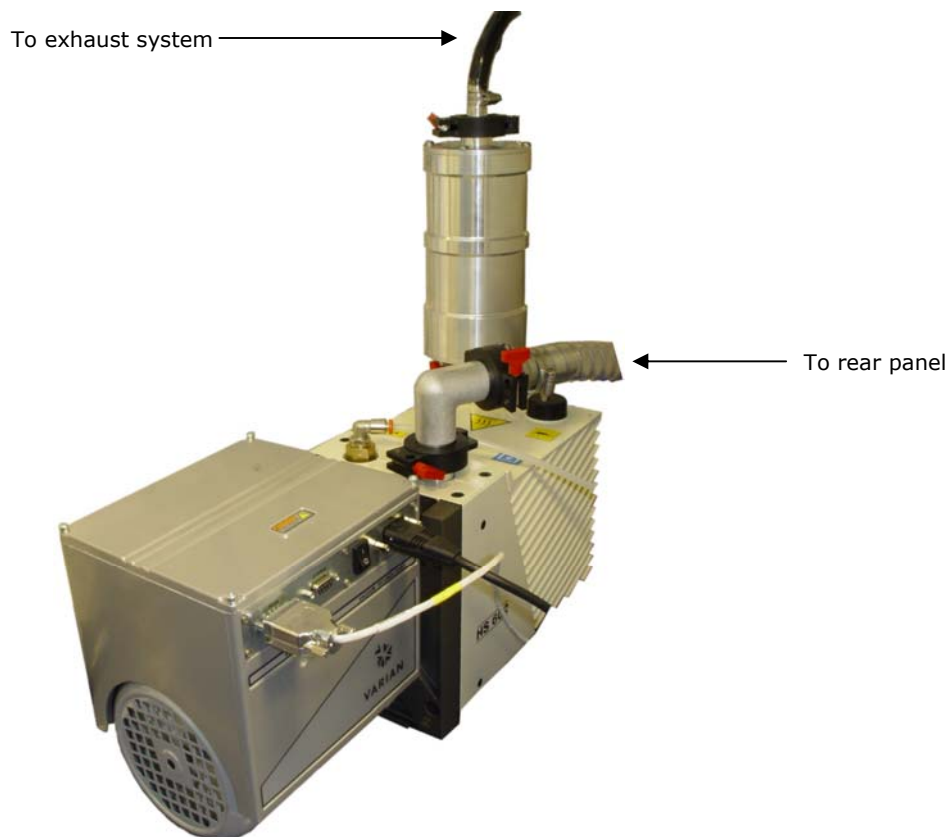

Figure 9 - Rotary pump tubing connections
10. Using the appropriate components, configure the vacuum hose as shown in Figure 9.